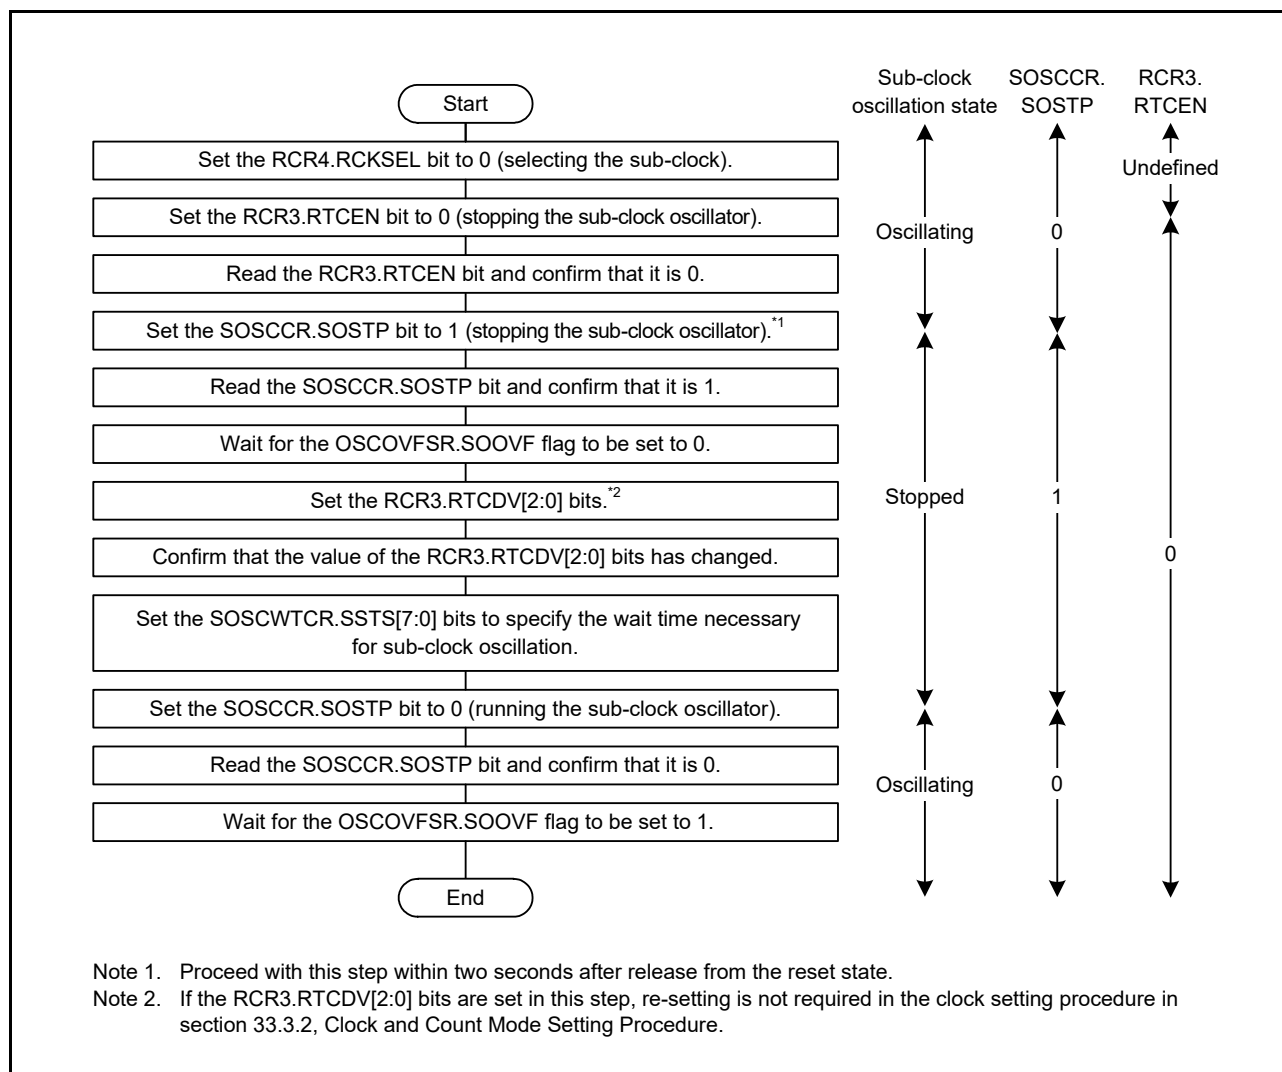

Figure 9.14 Example of Initialization Flowchart When Sub-Clock is Used Only as the System Clock
- Make initial settings according to the example flowchart shown in Figure 9.14 when the sub-clock is only to be used as the system clock.